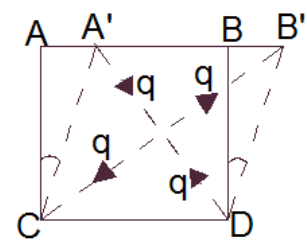

Fig.14
- This is a case of pure shear, across the diagonal 'BC' will be in tension and diagonal AD will be compression as shown in Fig.14 the stress generated in both the diagonal will be q as shown in Fig.14 (this will be more covered in mohr circle chapter)